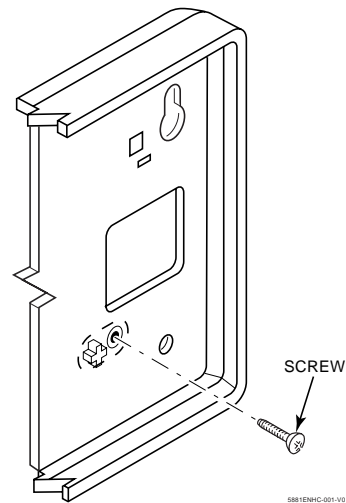

Figure 2: Tamper Protection
- c. If installing a 5881ENHC, install a flat-head screw (supplied) in the case tamper tab as shown in Figure 2. When the receiver is pried from the wall, the tamper tab will break off and remain on the wall. This will activate a tamper switch in the receiver and cause generation of a tamper signal. Note that this signal will also be generated when the receiver's front cover is removed.